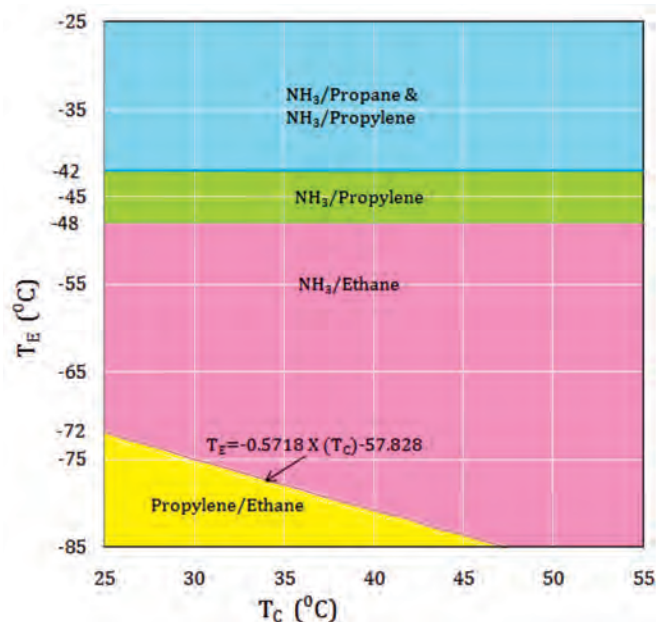
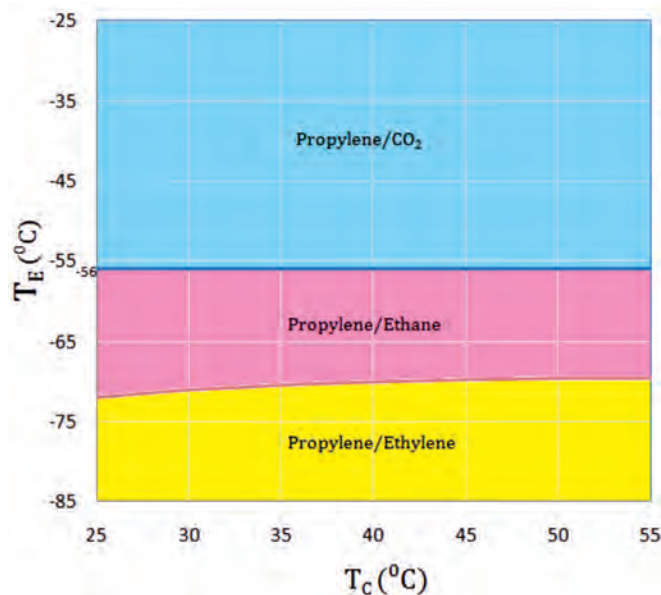

Fig. 2: Chart for best refrigerant pair selection based on maximum COP..
Fig. 3: Chart for best refrigerant pair selection based on maximum volumetric capacity..
However, few pairs have sorted in initial screening and final screening has been made based on maximum COP and maximum volumetric cooling capacity. All the selections have been made based on an optimum intermediate temperature for an individual pair. Two selection charts for given Evaporator Temperature (TE) and Condenser Temperature (TC) have been developed, one for the highest COP (Figure 2) and another for the highest volumetric capacity (Figure 3). ■